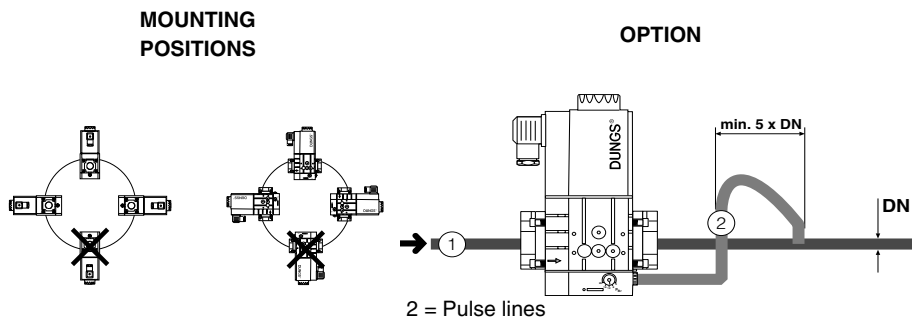

Fig. 4
2. Insert MBC...SE. Note position of O rings (see Fig. 4).